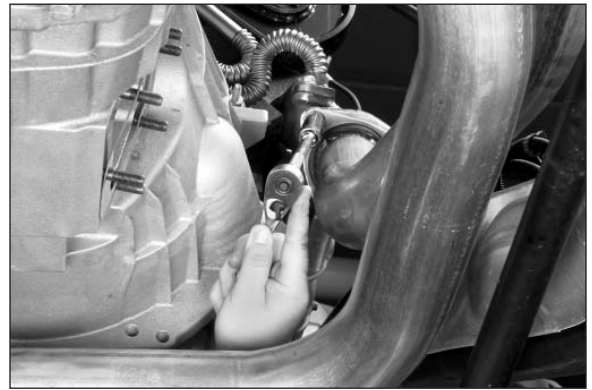

Fig. 1
2. If the vehicle is equipped with the 8.1L Gas Engine, it may be necessary to remove the three (3) bolts & studs that connect the right exhaust pipe and the right side engine exhaust header (Fig. 1). This will allow the exhaust pipe to be moved slightly away from the P.T.O. opening for installation of the P.T.O. to the aperture pad.